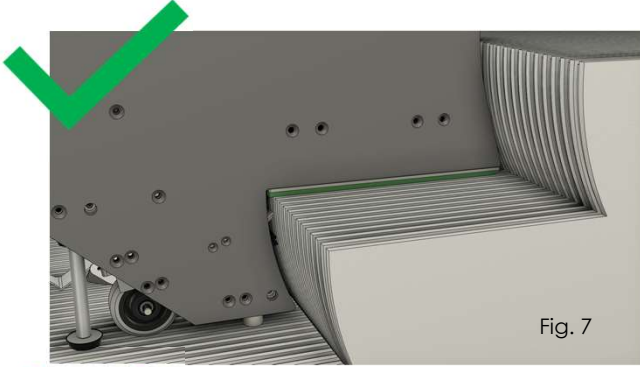
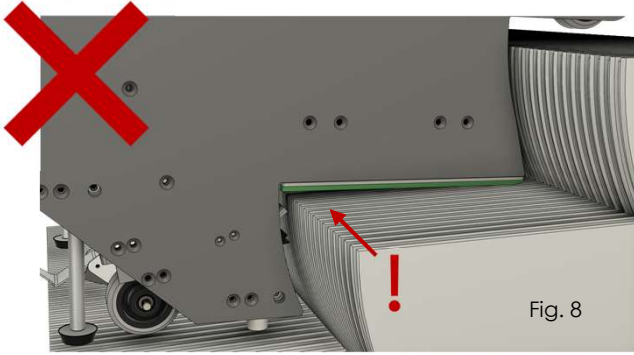

Fig. 7
Fig. 8
- Now press and hold the machine down button (Pg.9-15) until the machine sits perfectly flat on the green gliders (Fig.7)
- If the Rotomatic sits unevenly on the step (Fig.8), use the up and down buttons to carefully position it so it sits flat (Fig.7).